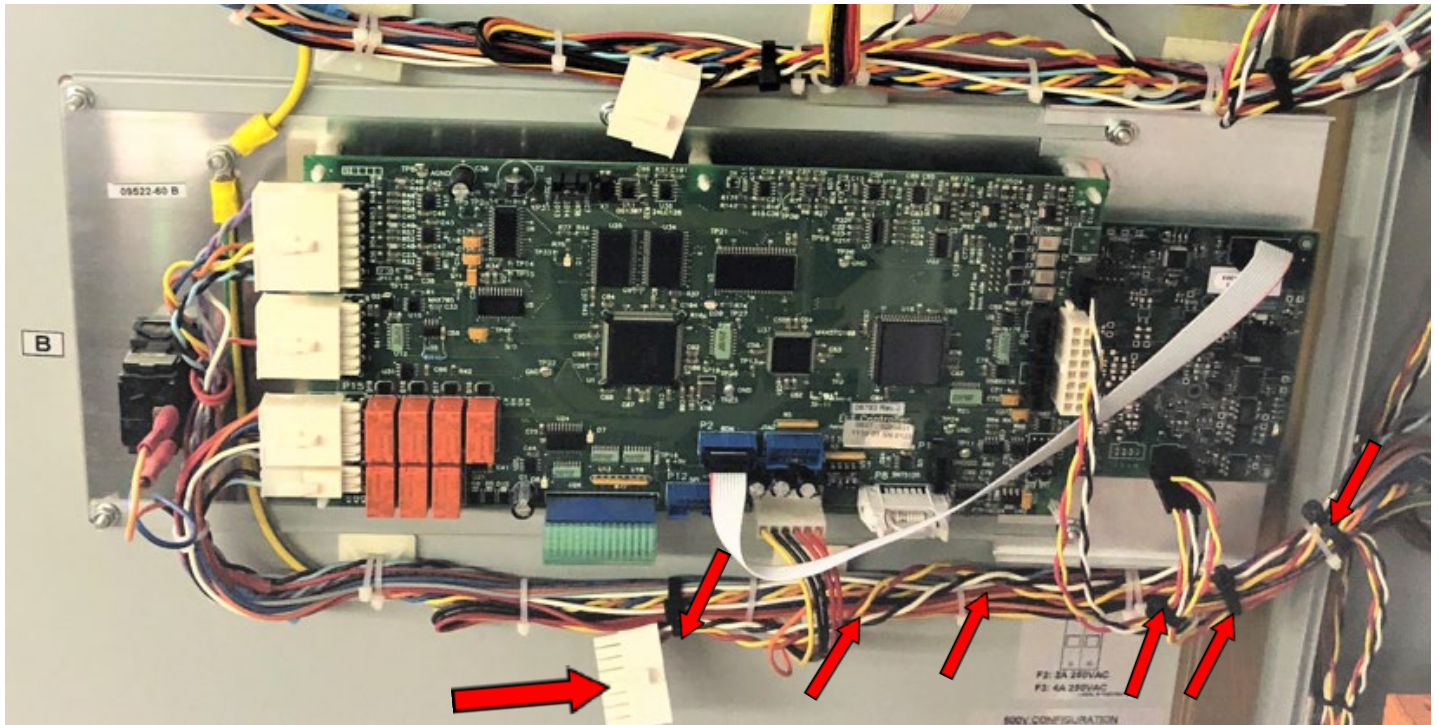

Figure 18 Disconnected BMID Connector J13(P13) and BMID Cable Tied Securely to the Harness with Cable Ties For Channel B
- 4.4.5. Disconnect the BMID connector J13(P13) from the Channel B of DVS100/DVS150 control board, and tie it, along with the attached BMID cable, securely to the harness with provided cable ties (Figure 18).